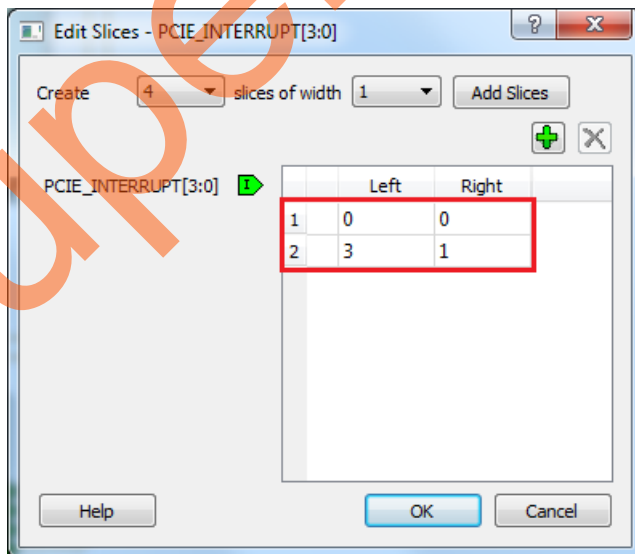

Figure 24 • Edit Slices
17. Click the + sign and create a slice with the Left index 0 and the Right index 0. Click + again to create a second slice with Left index 3 and Right index 1 as shown in Figure 24.